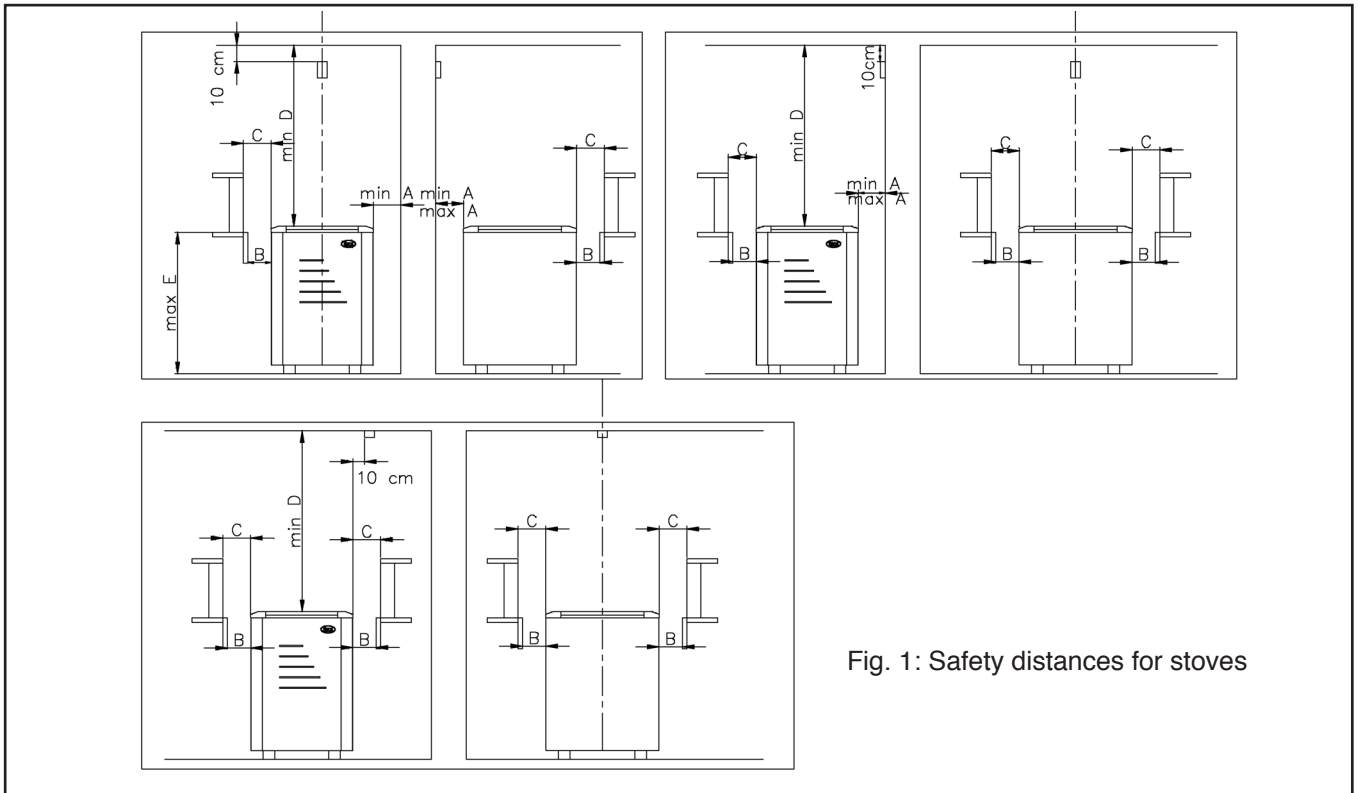

Fig. 1: Safety distances for stoves
**) See figure 1 *) Connected with rubber cable, type H07RN-F or corresponding cable
- Observe the safety distances (Fig. 1) when installing the stove.